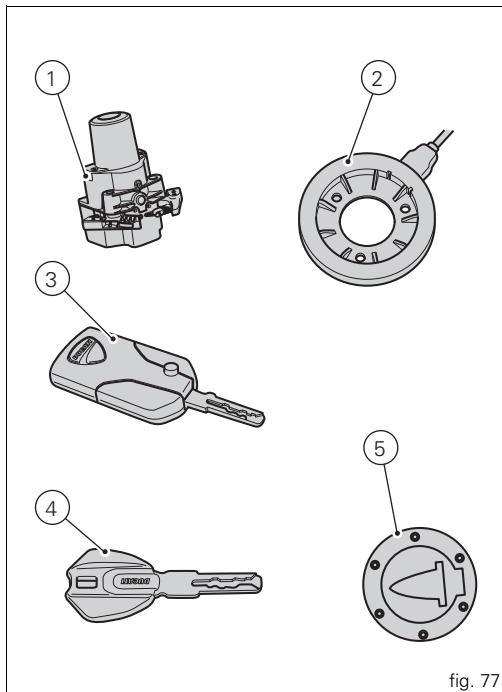

fig. 77
Key-Off consists in turning off the hands free system and all electronic devices, and makes sure the engine is turned off. Key-On is done using the button (6) on the handlebar on the right switch or using the emergency button (7) on the Hands free lock (1, fig. 77).
Key-Off is done using the button (6) on the handlebar on the right switch or using the button (7) on the Hands free lock (1, fig. 77).
Key-On can only occur in the presence of one of the two keys (3, fig. 77) or (4, fig. 77) or using the pin code.
Key-Off can also occur without a key (3, fig. 77) or (4, fig. 77). Key-Off occurs when the speed of the motorcycle is equal to zero, pressing the button (6) on the handlebar or by pressing the Hands free button (7); at a speed other than zero, only by pressing the Hands free button (7).
When the battery is discharged, the active key (3, fig. 77) acts like a passive key (4, fig. 77). The instrument panel displays the discharged battery status.
A Key-On can be performed by pressing the red key (6) on the handlebar in the HANDS FREE ON/OFF position and in the presence of the active key (3, fig. 77).
The active key (3, fig. 77) has a range of approx. 1.5 m, therefore it must be located within this range.
Key-Off can be performed by pressing the red key (6) on the handlebar in the HANDS FREE ON/OFF position. It can be done also without the key (3, fig. 77) only if the motorcycle speed is equal to zero.
Key-On can be performed by pressing the button (7) on the Hands free lock (1, fig. 77) and with the presence of the active key (3, fig. 77).
Key-Off can be performed by pressing the button (7) on the Hands free lock (1, fig. 77), also without the key (3, fig. 77).
A Key-On can be performed by pressing the red button (6) on the handlebar in the HANDS FREE ON/OFF position and in the presence of the passive key (4, fig. 77).
The passive key (4, fig. 77) has a range of a few cm, therefore the key (4, fig. 77) must be positioned near the antenna (2). Remove the seat (see "Removal of the seat" on page 119) to access the antenna (2).
Key-Off can be performed by pressing the red button (6) on the handlebar in the HANDS FREE ON/OFF position. It can be done also without the key (4, fig. 77) only if the motorcycle speed is equal to zero.
Key-On can be performed by pressing the button (7) on the Hands free lock and with the presence of the passive key (4, fig. 77).
Key-Off can be performed by pressing the button (7) on the Hands free lock (1, fig. 77), also without the key (4, fig. 77).
Key-On can be performed by pressing the button (7) on the hands free lock (1, fig. 77) without the presence of the keys (3, fig. 77) and (4, fig. 77) and entering the pin code on the dashboard.